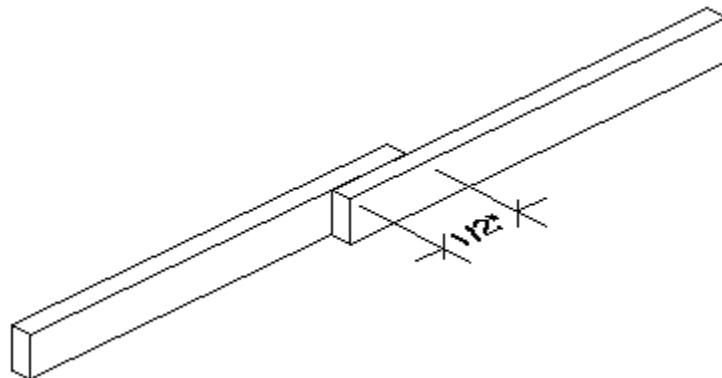

Figure 1: Simple Overlapping Joint
- 1) The span between the bridge supports will be 36 inches. Therefore, the model bridges will need to be 37 inches to rest on the supports and may NOT be longer than 39 inches. The bridge will be simply supported, meaning the supports exist only at the 0 inches and 36 inches points and are not continuous on either end of those points. The length of the supports will be less than or equal to ½ inches total length at those points. See Figure 1 below for diagram.
- D. The space 3 inches above and 3 inches below the middle section of the bridge must remain clear and free of members to accommodate the loading device. See Figure 1 below.
- E. Bars spanning the width of the deck at the 1/3 points will apply the loads. For this reason, a space no smaller than $\frac{1}{2}$ inches $\times \frac{1}{2}$ inches must be left open at deck level at those points through which to slide these bars. See Figure 1 below.
Figure 1: Diagram of support locations and approximate size, loading positions, space between loading points, and 3 inches above and 3 inches below the bridge that must be an open area.